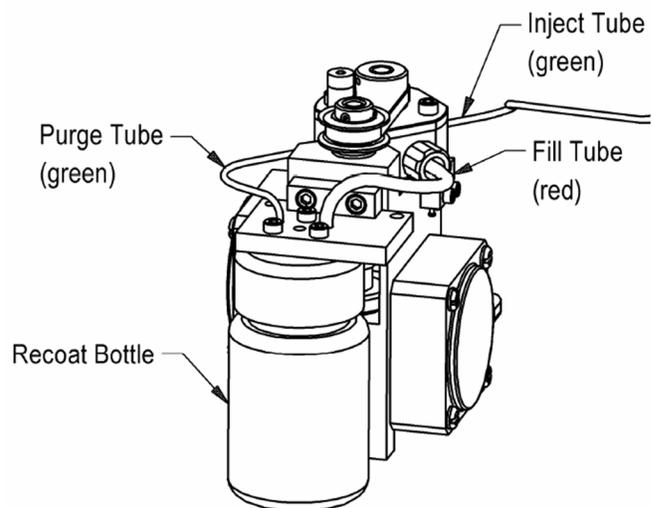

Figure 3 Recoat Material Flow
The PRL201 has an automatic recoat injection pump fitted inside the unit. The pump is based on an automated syringe and distribution valve that can select one of three ports (Fill, Purge, or Inject) through which it can either draw or inject recoat material (see Figure 3). A bottle containing recoat material is installed directly on the pump, with the pump “Fill” tube inserted into the bottom of the bottle. A “Purge” tube runs from the pump to the top of the recoat bottle, and is used for cycling material back into the bottle. An “Inject” tube runs from the pump to the inject port of the die, which is located in the center of the lower right die. Once all air is purged from the injection system, the pump provides very accurate control of the volume and velocity of recoat material injection.
2. Remove the front plate of the PRL201 by using the 3/32" Allen wrench provided in the tool kit to remove the four (4) socket-head cap screws located at the corners of the plate.
5. Screw the new recoat bottle into place and replace the front panel and the four (4) socket head cap screws.
7. Execute five (5) Purge cycles (Options menu on Handset Controller). Each purge cycle will draw 100 microliters of recoat material from the bottom of the recoat bottle through the red Fill tube and inject material back into the top of the recoat bottle through the green Purge tube (see Figure 3). Five (5) Purge cycles are required to fill the pump with recoat material and force any air out of the pump system. This will take approximately 15 minutes to complete.